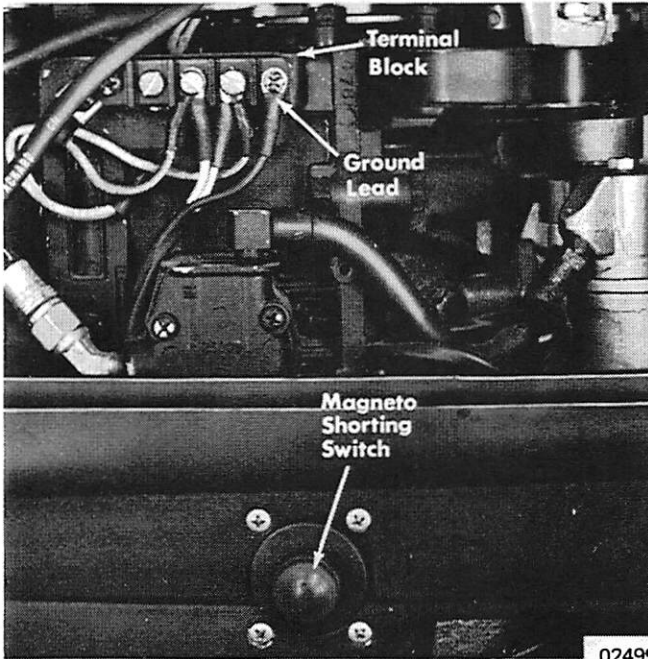

Figure 1. Magneto Shorting Switch Assembly
2. Disconnect magneto shorting switch leads from terminal block (Figure 1) and remove switch from bottom cowl.
6. Place magneto shorting switch in position and secure with 4 screws. (Figure 1)
7. Attach magneto shorting switch leads to terminal block as shown in Figure 1.
*NOTE: Black lead is ground and must be attached as shown in Figure 1.*